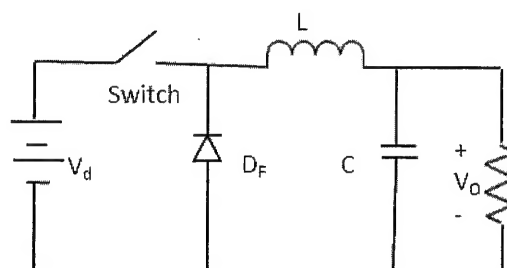

Figure 3 (a)
- a) Figure 3 (a) is a buck converter circuit. Design this converter to power a load that consumes 28 W to operate. Assume that the buck converter will be operating in the continuous current mode and all the components are ideal. The load requires a voltage with ripple not more than 1%. Following are other requirements :
- b) Consider a buck-boost converter as shown in Figure 3 (b) that supplies 120 W at 10 A from a 40 V DC source. The converter operates at the switching frequency of 10 kHz and given the inductor in the circuit is 250 μ H. Determine the following: